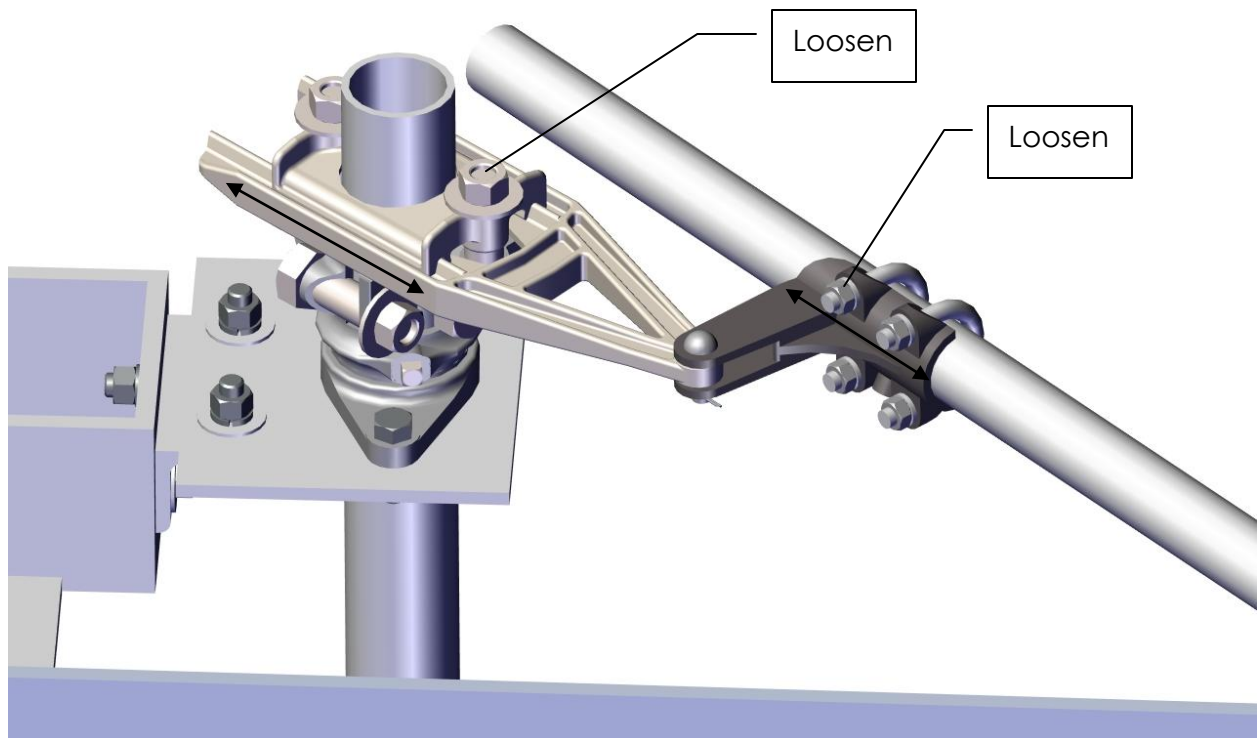

Figure 27: Adjusting the Adjustable Arm
- v) Lengthen the adjustable radius arm approximately ¼-inch. Allow the pipe clevis to reposition itself the same ¼ inch. See Figure 27.
- v) Shorten the adjustable radius arm approximately $\frac{1}{4}$ -inch. Allow the pipe clevis to reposition itself the same $\frac{1}{4}$ inch. Refer to Figure 27.